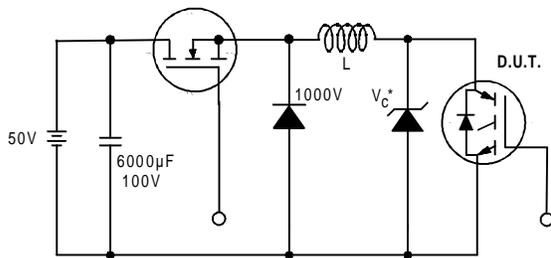

Figure 19. Clamped Inductive Load Test Circuit
- ② $V_{CC}=80\%(V_{CES})$, $V_{GE}=20V$, $L=10\mu H$, $R_G = 100W$ (figure 19)
- ③ Pulse width $\leq 80\mu s$; duty factor $\leq 0.1\%$.
- ④ Pulse width $5.0\mu s$, single shot.
- ⑤ This only applies to TO-262 package.
- ⑥ This applies to D²Pak, when mounted on 1" square PCB (FR-4 or G-10 Material).